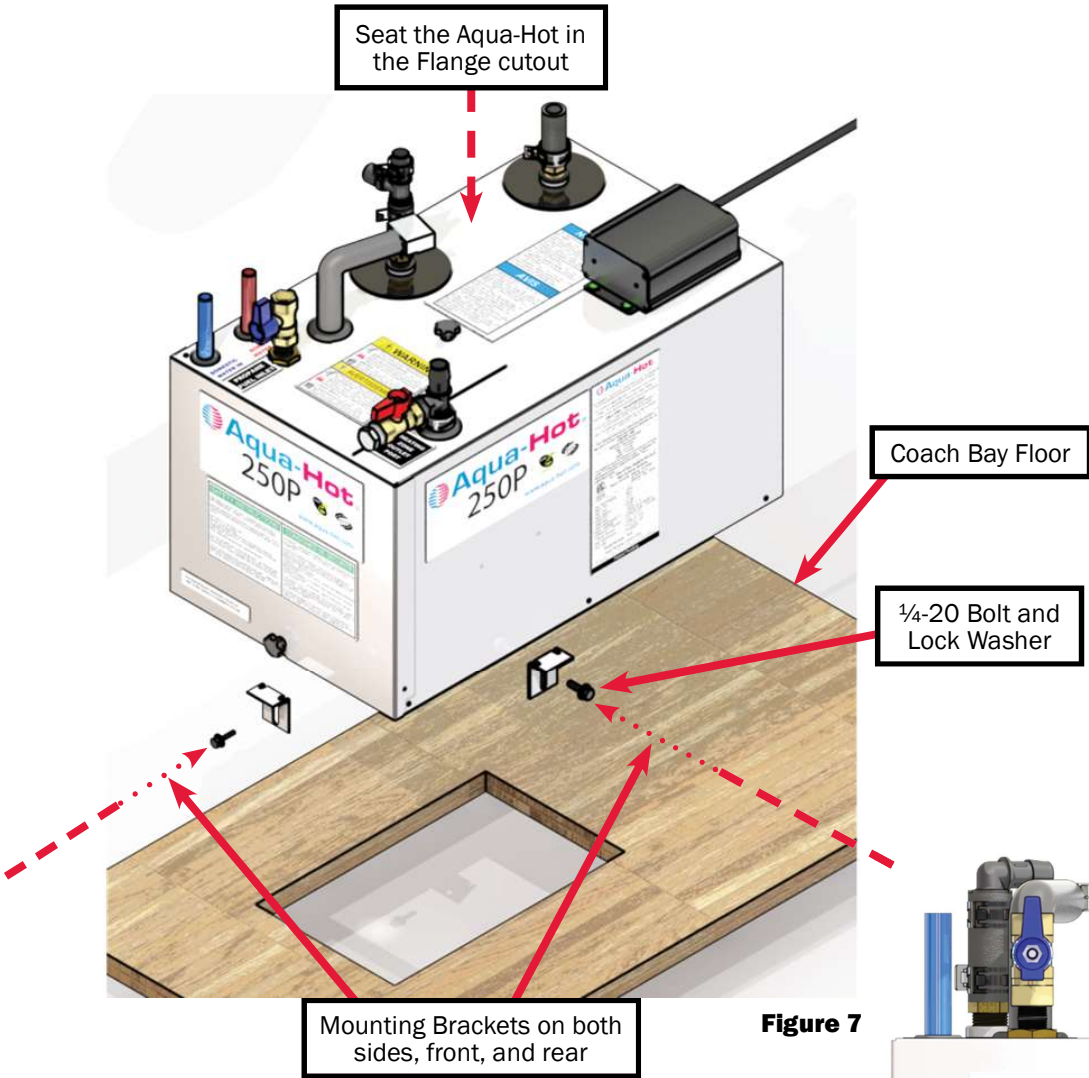

Figure 7
3. Install the flange located on the bottom of the Aqua-Hot into the cutout opening. Reference Figures 7 & 8.